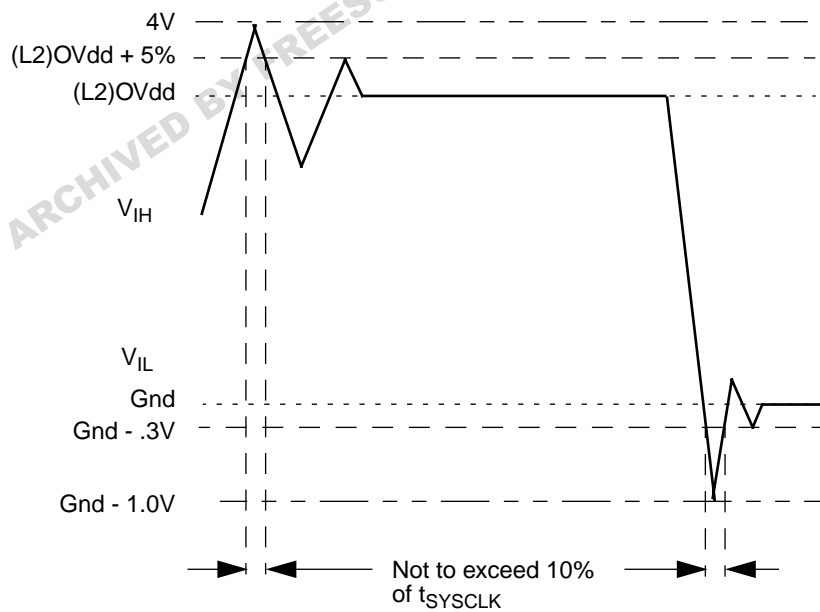

Figure 2. Overshoot/Undershoot Voltage
5. V_{in} may overshoot/undershoot to a voltage and for a maximum duration as shown in Figure 2
Figure 2 shows the allowable overshoot and undershoot voltage on the MPC750.